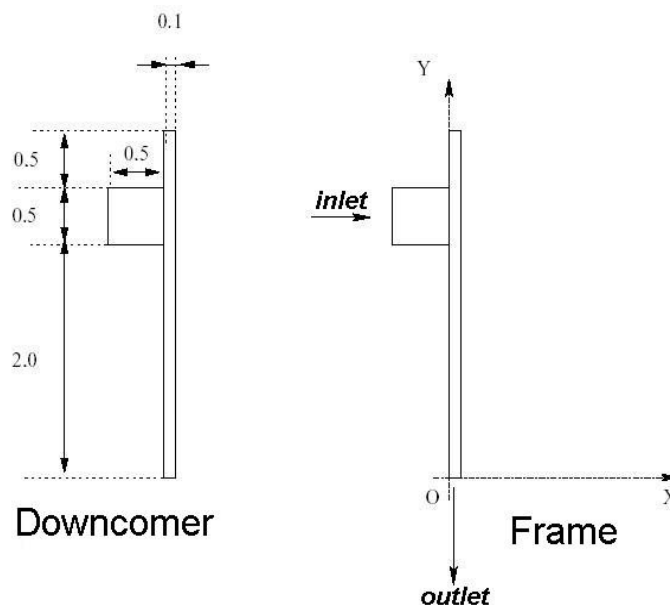

Figure I.1: Geometry of the downcomer
It consists of a simple junction as shown on figure I.1. The flow enters through a hot inlet into a cold environment and exits as indicated on the same figure. This geometry can be considered as a very rough approximation of the cold branch and the downcomer of the vessel in a nuclear pressurized water reactor. The effect of temperature on the fluid density is not taken into account in this first example.
**Coordinates system:** cartesian, origin on the edge of the main pipe at the outlet level, on the nozzle side (figure I.1)